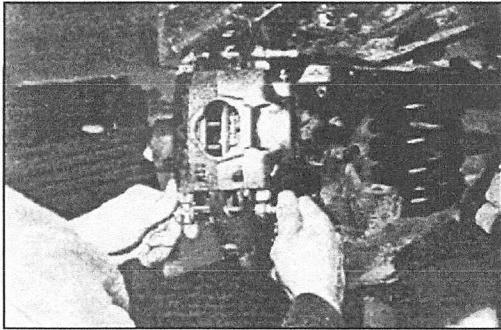
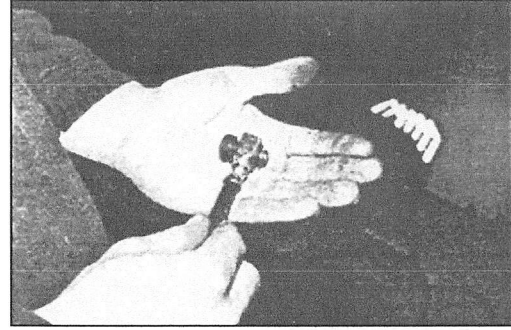

Fig. 8a
Fig. 8b
Step 8: Install the brake caliper onto the spindle using the included hardware. (There are left and right-hand calipers. Make sure the bleeder screws are pointing up). Torque the caliper bolts to 35 ft. lbs. (Fig. 8a). The brake hose attaches to the caliper using the supplied banjo bolts. Make certain that you install the copper washers on each side of the brake hose fitting (Fig. 8b).